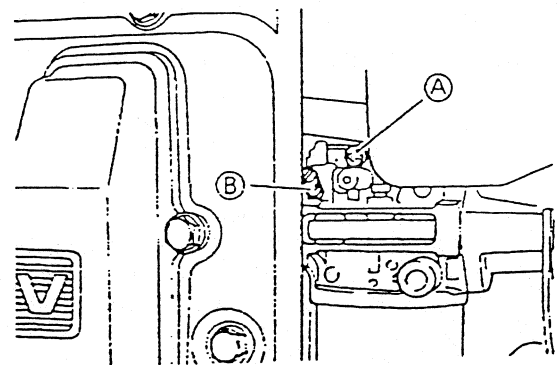

FIGURE 20A
- Turn carb. pilot screw (B) in until it just seats and then back out 1-1/2 turns (Fig. 20A).
- Adjust slow idle speed to specified rpm (1450-1650 rpm) by moving throttle stop screw (A) (Fig. 20A).
- Adjust pilot screw (B) until engine idles at maximum speed and then turn pilot screw out additional 1/4 turn (Fig. 20A).